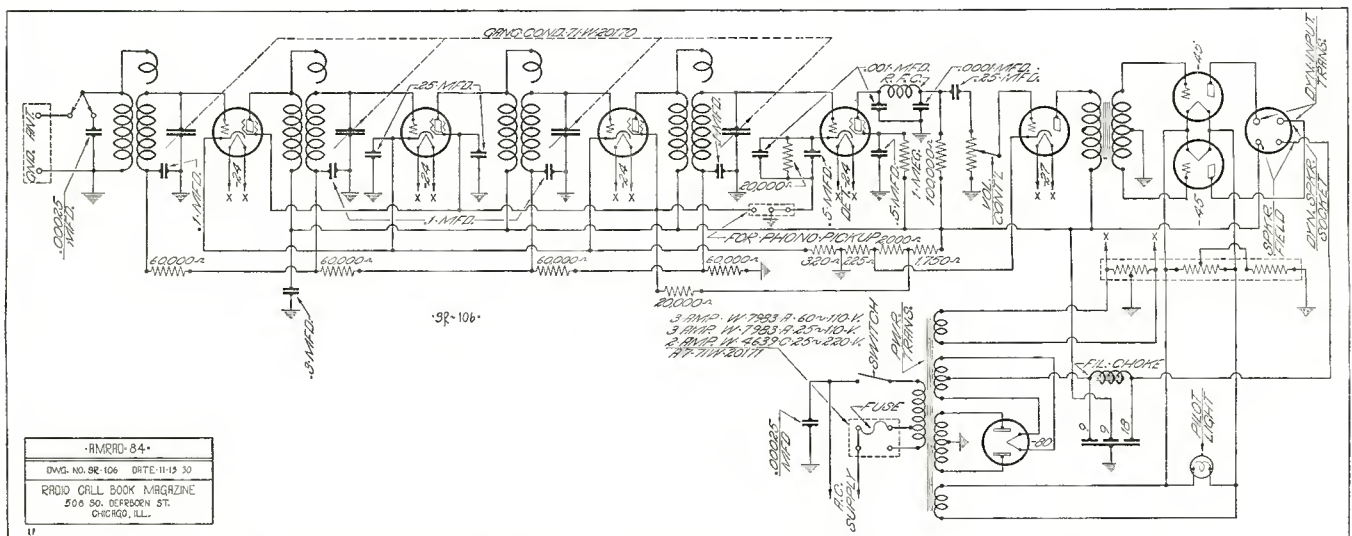

Fig. 2. The schematic diagram of the Amrad model 84 is shown in this drawing
**P**ROBABLY on account of the great numbers of these receivers in service in the field, our information department has been besieged with requests for information covering the Radiola 44 receiver. Tube operating values in Figure 1 and the schematic of the receiver and power supply in Figure 2 will be of interest, together with such other important service data as can be abridged from the manual for that model.